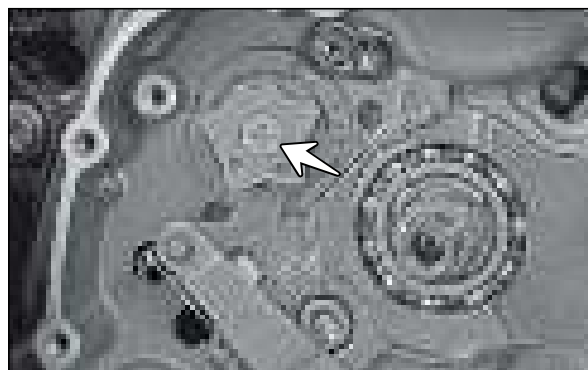

Fig. 3.119
- Remove recessed CSK head screw (M6x20 - 1 No.) from the index star mounting and take out the index star. (Fig. 3.119)